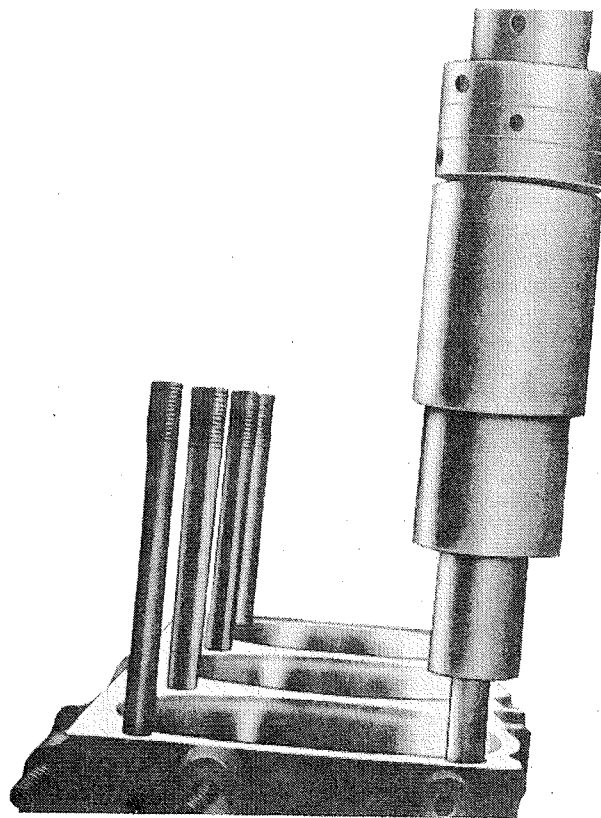

FIG. 23—INSTALLING CRANKCASE STUDS
d. Use a stud setter similar to the one shown in Fig. 23, install, and torque to 90 foot-pounds [12,4 kg./m.].